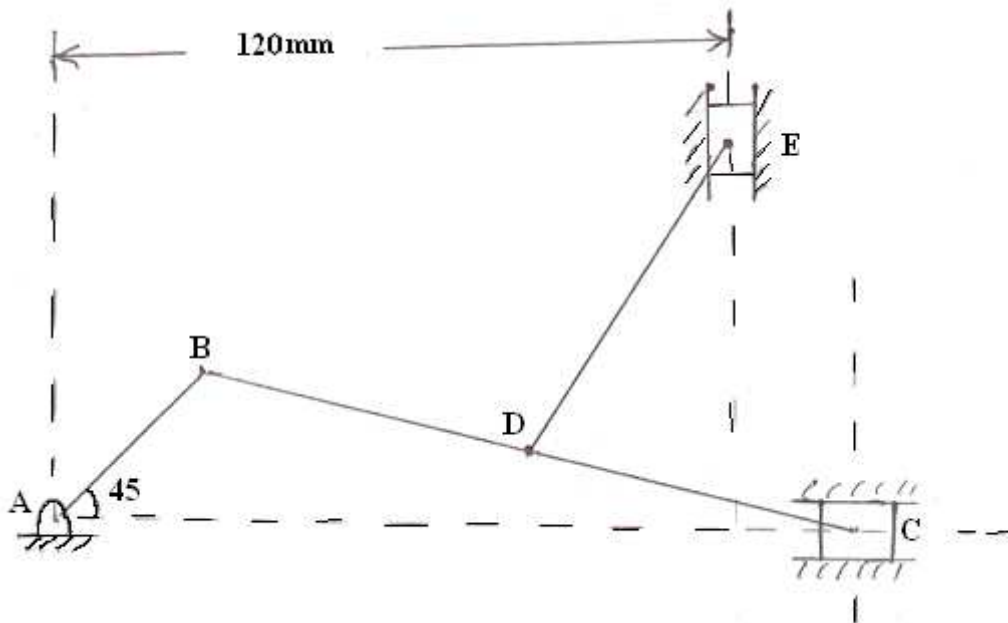

Figure 6
6. In the mechanism shown in figure 6. link AB rotates clockwise at a speed of 240 r.p.m. At the instant shown, find the velocity and acceleration of slider 'C' as well as those of slider 'E'. AB = 50 mm, BC = 120 mm, BD = DC = 60 mm, DE = 80 mm. [16]